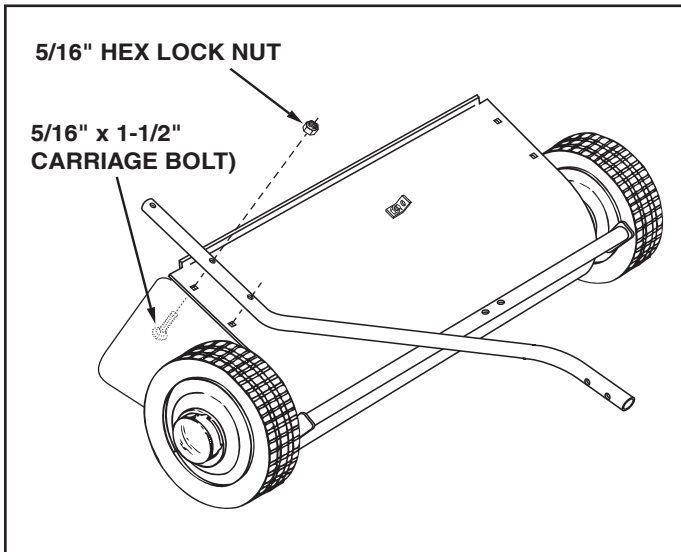

FIGURE 2
- Assemble the R.H. hitch tube to the sweeper housing using two 5/16" x 1-1/2" carriage bolts and 5/16" hex lock nuts. **Do not tighten yet.** Repeat for the L.H. hitch tube. See figure 2.